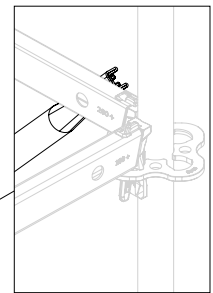

Fig. A1.19
3. Insert Ledger Brace UBL (**11a**) into the top Horizontal Ledger UH with the mounting finger. (Fig. A1.19)